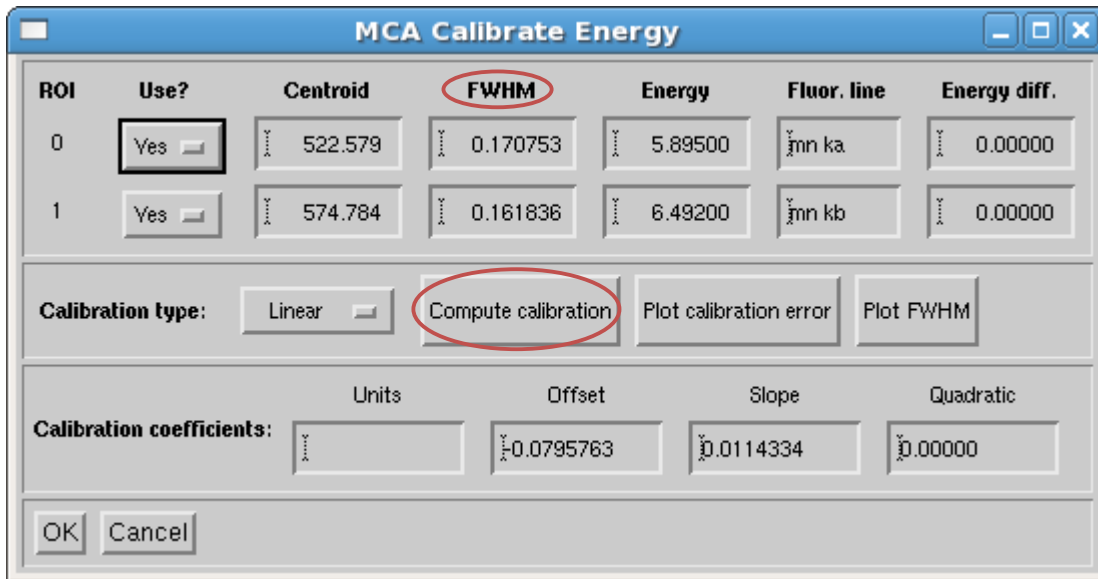

Figure 9: MCA “Calibrate Energy” screen
5. Click **Compute calibration**, (Figure 9) then **OK**.